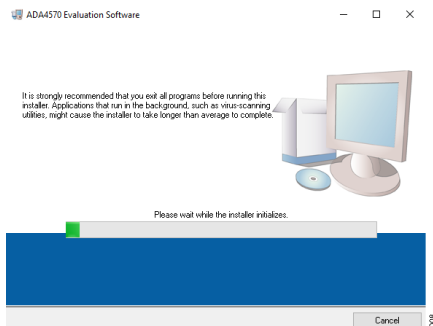

Figure 8. EVAL-ADA4570SDZ Evaluation Software Install Window
3. Click the **setup.exe** file to begin installing the evaluation software. The software installation window opens as shown in Figure 8.